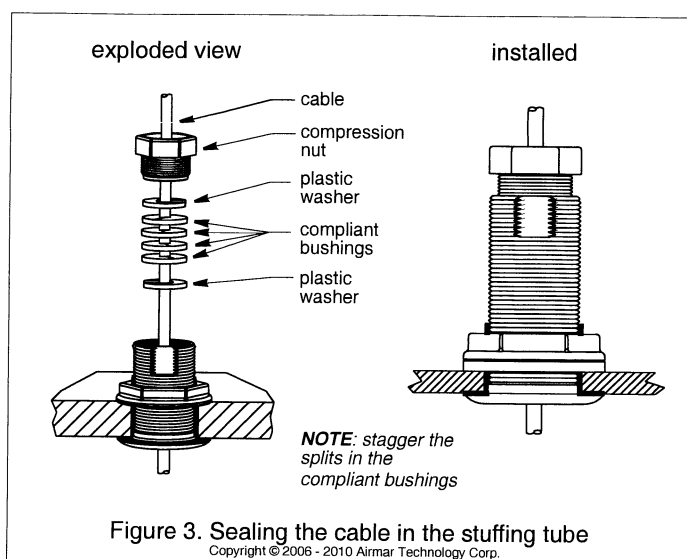

Figure 3. Sealing the cable in the stuffing tube
- Place the four compliant bushings around the cable *above* the plastic washer (see Figure 3). Arrange the bushings so that the splits are staggered—*not* aligned. At the top of the stack, press the second pair of plastic washers together to form a closed ring. *Be sure the plastic washers and compliant bushings are stacked as shown in Figure 3.*